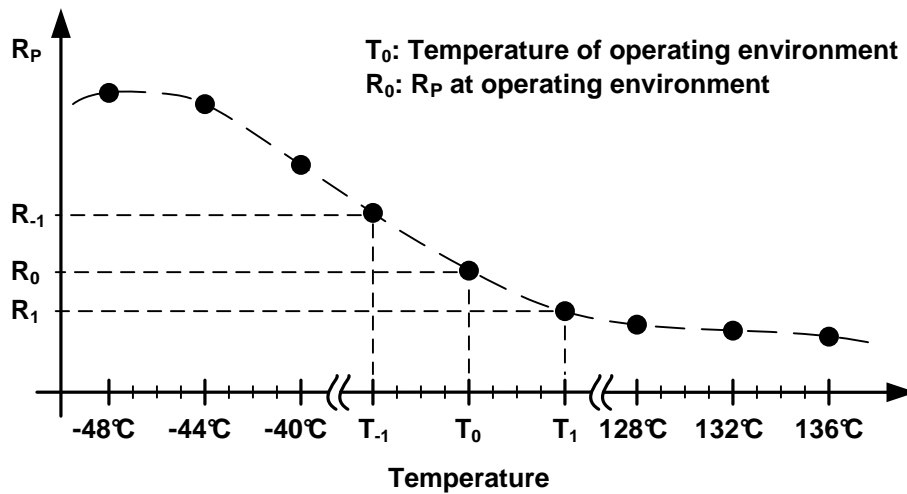

Figure 25.  $R_p$  Measurement Example
3. **Normalizing  $R_p$ :** Once all  $R_p$  values have been read and logged for the whole LUT temperature range as illustrated in Figure 25 the data must be normalized to the intended ambient operating temperature  $T_0$ . This is done by dividing each  $R_p$  data point by  $R_0$ , the measured  $R_p$  at the ambient operating temperature for each temperature of the LUT register. This ratio provides the gain correction factor coefficients (GCF) as shown in Figure 26. If the ambient operating temperature  $T_0$  does not fall on one of the 4°C incremental points of the LUT then  $R_0$  will need to be interpolated.